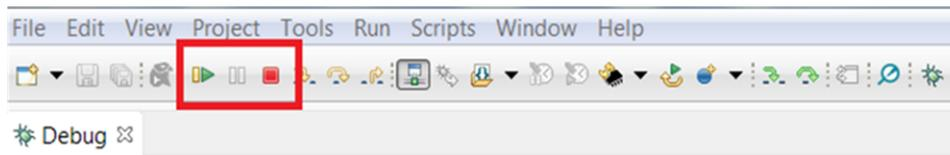

Figure 27. Execute Buttons
Step 8. When the CCS software is connected to the device, run the program from CCS to execute the program in hardware by clicking the green play button (see Figure 27. Click the red stop button ((see Figure 27) to disconnect the MSP-FET430UIF from.